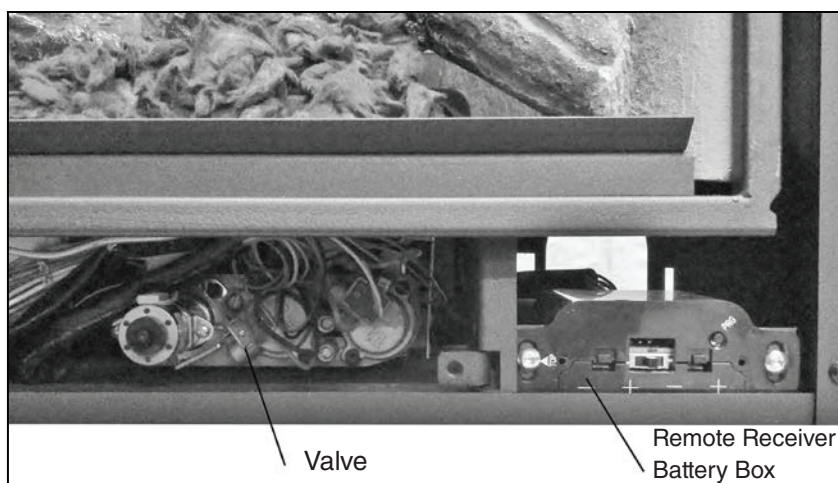

Figure 31: Valve Location
1. Remove bottom trim and locate the valve as seen in Figure 31.